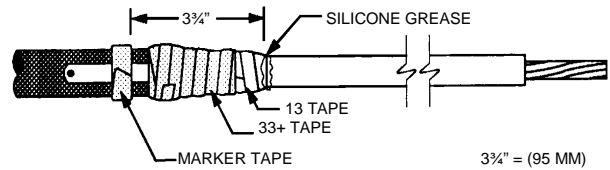

Figure 5
5. Wrap one half-lapped layer of highly stretched vinyl tape (e.g. Scotch™ Super 33+ Tape, not supplied in kit) over mastic strip and ground strap coil, to edge of previously applied 13 tape (Figure 5).
1. Place a marker tape 3-¾" (95 mm) back from the end of the 13 Tape (Figure 5).
2. Cover the edge of the 13 Tape with a liberal coating of silicone grease (Figure 5). **NOTE:** On this product, the silicone grease does not serve as a lubricant. It must be used to fill the step at the 13 Tape leading edge. The silicone grease may also be used to fill in cable surface defects and can be applied over the ground strap seal to aid in core removal (step C-4).